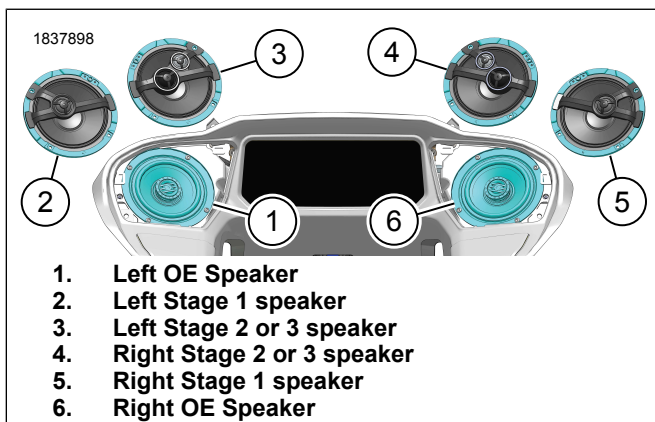

Figure 4. Speaker Orientation (Typical)
1. Figure 4 Orient Stage I (2, 5) or II (3, 4) speaker as shown.